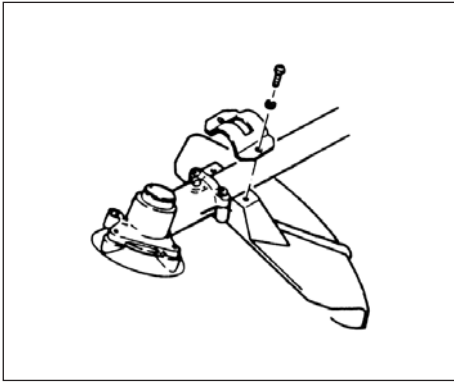

Fig. 1-8
**Installation of blade guard(Fig. 1-8, 8B, 1-8D)**